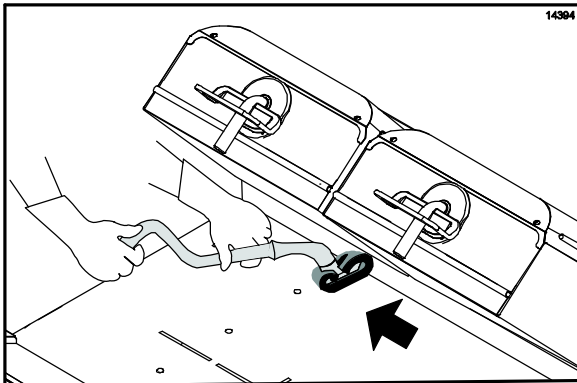

Figure 49
18. Apply the grill cleaner to the back side of the platens, from the right platen to the left platen. (See Figure 49.)